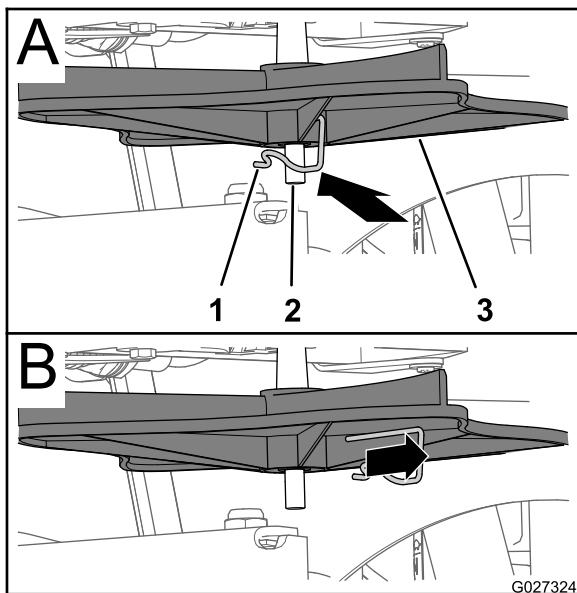
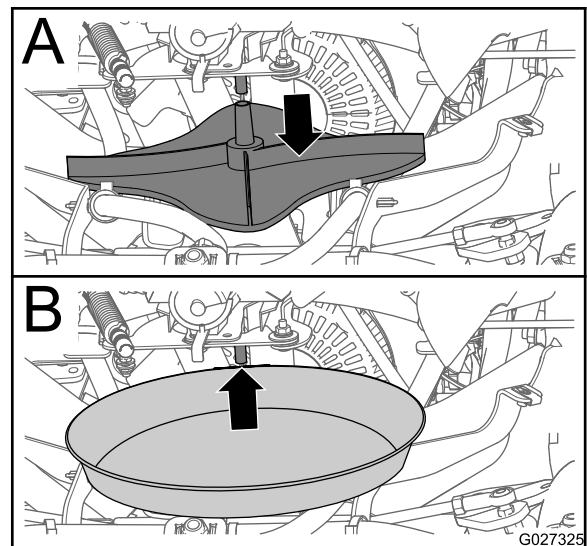

Figure 33
Figure 34
4. Remove the drive pin that secure the impeller to the shaft of the impeller motor, and remove the impeller from the shaft (Figure 33 and Figure 34).
5. Place a shallow pan under the shaft of the impeller motor (Figure 34).